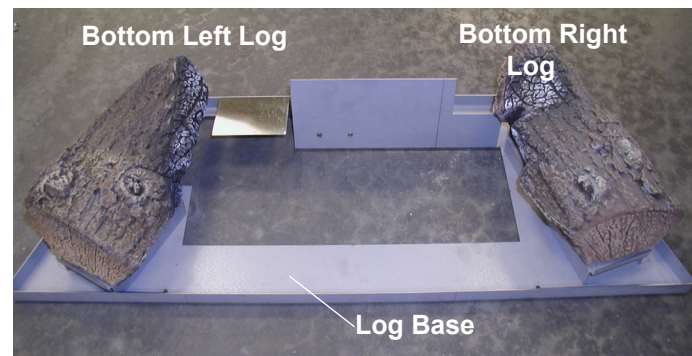

Figure 34a. Bottom left & right log placements.
Step 2. Place the bottom left and right logs as shown above in *figure 34a*.